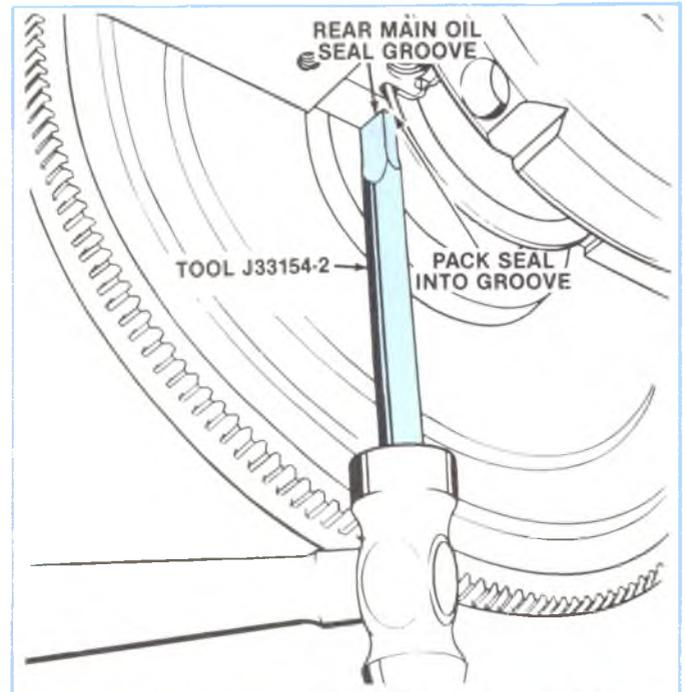

Figure 2-22, Packing Rear Main Upper Seal.
2. Insert Packing Tool J33154-2 against one end of seal in cylinder block and drive the old seal gently into the groove until it is packed tight. This varies from  $\frac{1}{4}$ " to  $\frac{3}{4}$ ", depending on the amount of pack required. (Figure 2-22).